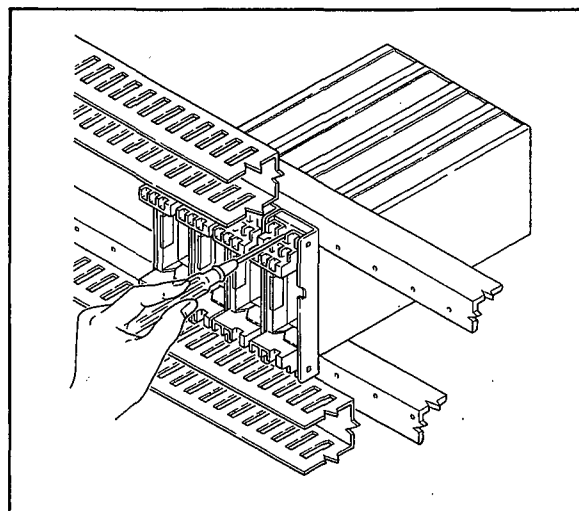

Figure 4-5. Installing Rack Case.
- (1) Insert the case into the rack so that the multi-pin connector is on the left side. Install screws (M5 X 8) in both the upper and lower mounting holes of the case and tighten them into the threaded holes of the rack to secure the case. (See Figure 4-5.)